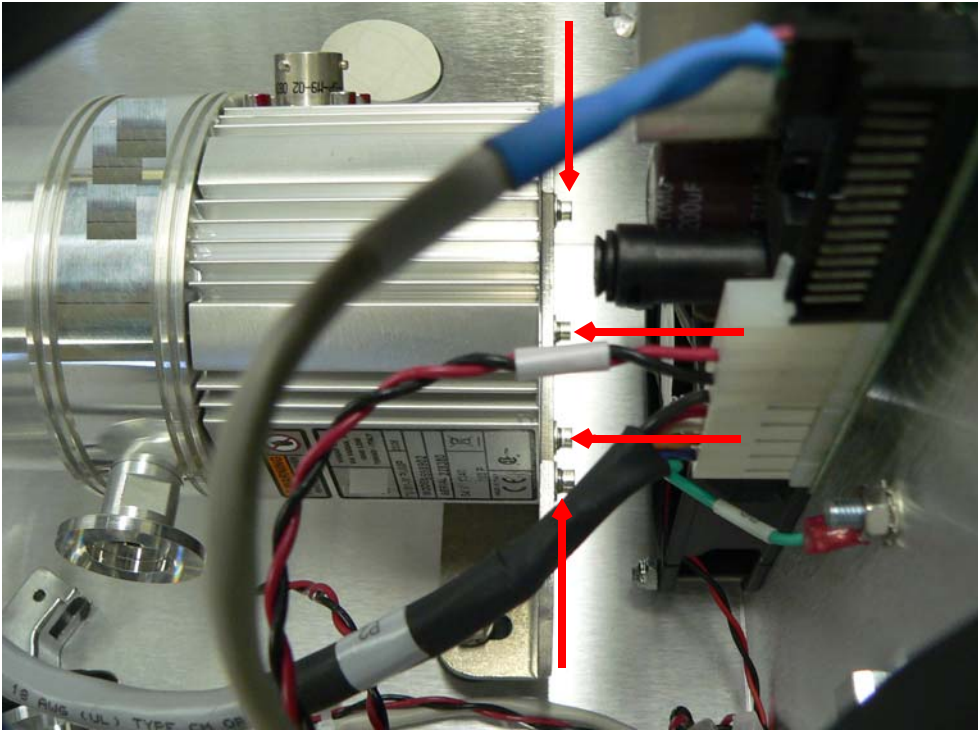

Figure B-8 Pump To Mounting Assembly
9. Use an M2.5 wrench to remove the four (4) nuts holding the pump to the mounting assembly (Figure B-8).
11. Use an M2.5 wrench to reinstall the four (4) nuts holding the pump to the mounting assembly (Figure B-8 on page B-6).